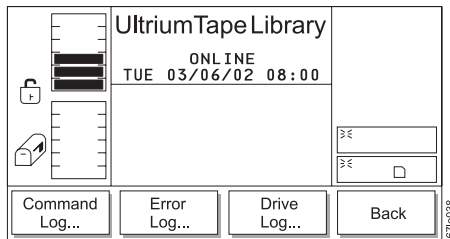

Figure 4-49. Logs Submenu
2. Press the button below the **Logs** softkey. The Logs Submenu displays (see Figure 4-49).
6. To return to the Logs Submenu (see Figure 4-49 on page 4-30), press the button below the **Cancel** softkey. To return to the Main Menu, press the button below the **Cancel** softkey, then press the button below the **Back** softkey until the Main Menu displays.